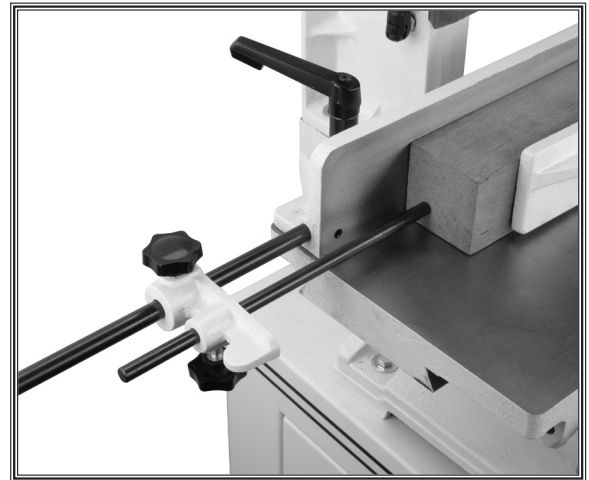

Figure 15. Using the extendable workstop.
3. Loosen the lock knobs on the extendable workstop and slide the smaller rod against the end of the workpiece as shown in **Figure 15**, then tighten the lock knobs.